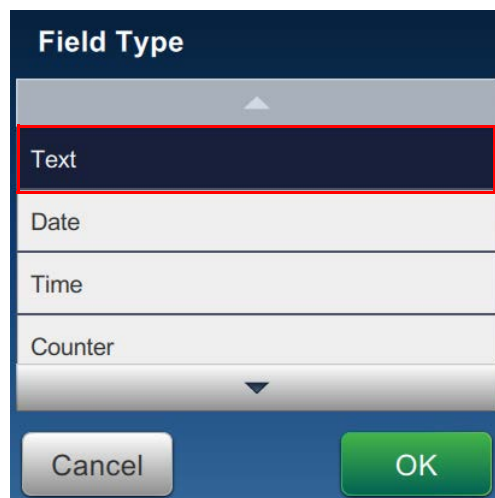

Figure 3-28: Field Type Screen
5. Touch the *Text* option from the Field Type drop down list to insert a text field and touch the *OK* button as shown in Figure 3-28.